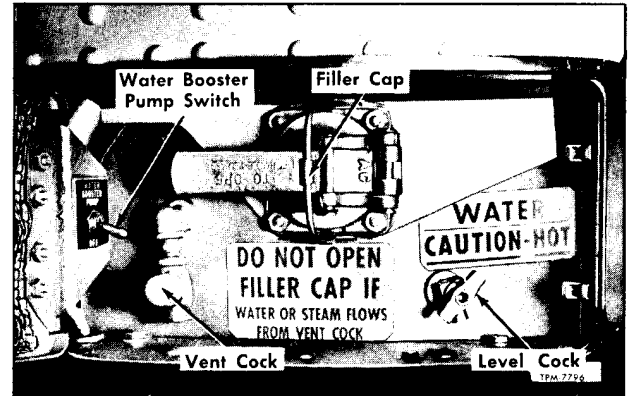

Figure 1—Cooling System Units at Surge Tank
Pressure valve at surge tank is used to maintain pressure within cooling system. Temperature of coolant within engine is controlled by engine thermostats in thermostat housing at front of engine. Cooling system is filled through filler cap at surge tank (fig. 1).
3. Open level cock in surge tank (fig. 1). Through filler cap (fig. 1) slowly fill system to level of level cock (fig. 1).
2. At surge tank (fig. 1) open level cock and filler cap, then add water to level of level cock (fig. 1). Close level cock when system is full.
1. At surge tank, check coolant level by pressing vent cock button to relieve pressure, then open level cock (fig. 1). If liquid flows out of level cock, system contains adequate solution. If coolant is low add water as necessary. **NOTE:** Refer to previous instructions for filling cooling system.